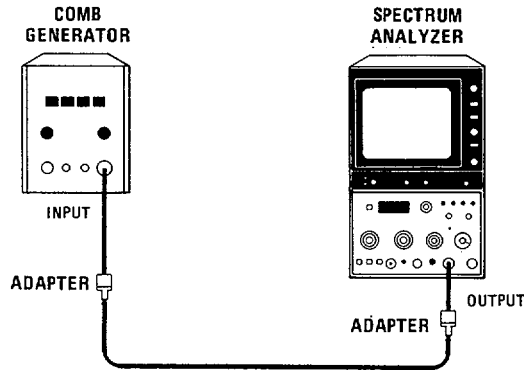

Figure 4-5. Residual FM Test Setup
2. Connect OUTPUT of comb generator to spectrum analyzer INPUT connector as shown in Figure 4-5.